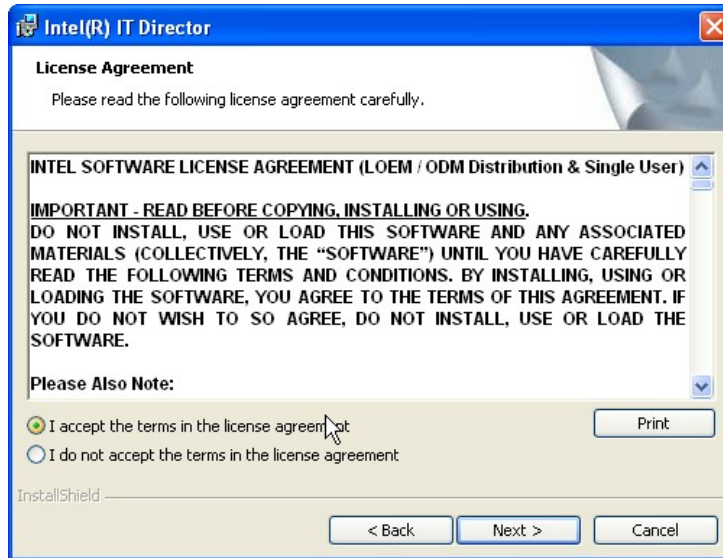

Figure 6-34: IT Director License Agreement
Step 7: The license agreement in **Figure 6-34** appears.